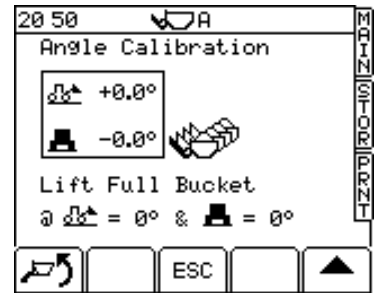

Figure 15
2. Park the loader on level ground. Press the ENTER key to zero both offsets. The next screen is then displayed (fig.15).